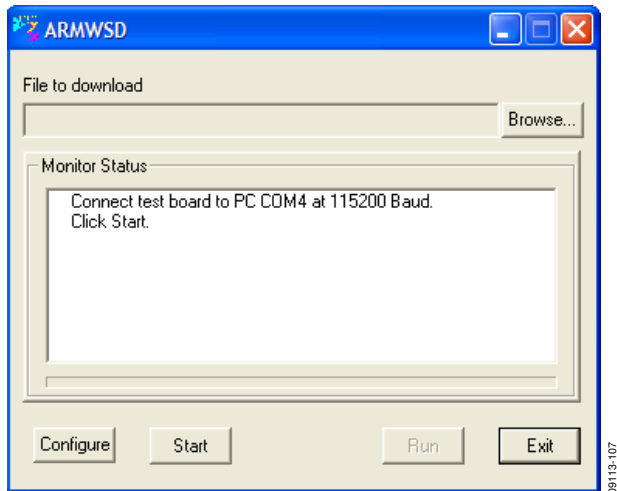
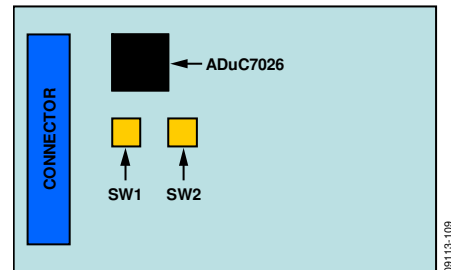

Figure 8. ISEB ARMWSD Firmware Downloader
Figure 10. ISEB Switch Locations for Flashing the Microcontroller
2. Run the **ARMWSD.exe** program located in the **/ISEB_USB/FW/** folder; it displays information about the downloader, as shown in Figure 8.
When the COM port is selected, click **OK** to accept the changes and go back to the ARMWSD box (shown in Figure 8).
1. Click **Start** in the ARMWSD box (see Figure 8) to initiate the flashing process. After clicking **Start**, click the two buttons (shown in Figure 10) on the ISEB in the following order to flash the firmware:
2. If the downloading process fails, which is indicated in the **Monitor Status** box (see Figure 8), attempt the download again by clicking **Start** and then pressing the appropriate switch combination. It may take a few attempts to reprogram the board successfully.
3. After the download has completed successfully, click **Run** (as shown in Figure 8) to reset the ISEB and to begin running the new firmware.